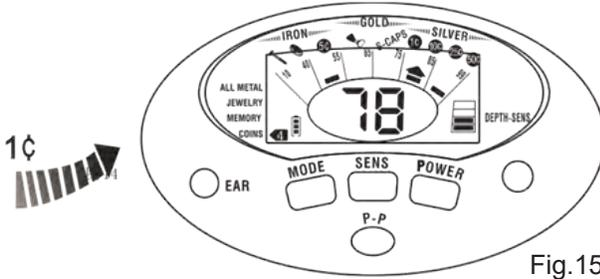

Fig.15
- d) While sweeping the other three samples, the response of the detector is the same with the ALL METAL mode. (See Fig.15, take 1 ¢ as an example)